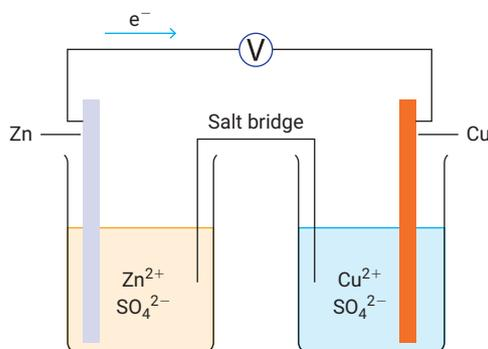

FIGURE 9.1.3 The galvanic cell between zinc and copper
This simple galvanic cell is shown in **Figure 9.1.3**.
The electrons flow through a wire connecting the metals in the different half-cells. Because copper has a greater potential to be reduced than zinc, electrons are transferred from the zinc atoms in the zinc half-cell to the copper half-cell where the copper ions are reduced. The flow of electrons produces a current, which is measured in amperes (amps). Voltage (also known as electrical potential difference) is a measure of the work needed to move a charge between two points and is measured in volts (V). If a voltmeter is included in the circuit, as seen in Figure 9.1.3, the electrical potential difference between the two half-cells can be measured in volts. Electrical potential difference will be covered in detail in Chapter 10.
Figure 9.1.3 shows a galvanic cell connecting a Zn, Zn²⁺ half-cell to a Cu, Cu²⁺ half-cell. For electricity to flow there needs to be a complete circuit. In a galvanic cell, there is an **external circuit** consisting of the connecting wires and voltmeter (or appliance) connected to an **internal circuit**, which consists of the strips of metal, solutions and **salt bridge**. The voltmeter measures the difference in cell potential of the two half-cells and can therefore measure the electrical energy generated by the cell (in volts), indicating that the cell is working.
The conductors of the cell, usually pieces of metal, which get connected to the external circuit, are called **electrodes**. In the cell in Figure 9.1.3 there is a zinc electrode and a copper electrode. Sometimes the term ‘electrode’ is also used to refer to the combination of conductor and associated ions in solution. In the example, these would be the Zn, Zn²⁺ electrode and the Cu, Cu²⁺ electrode.